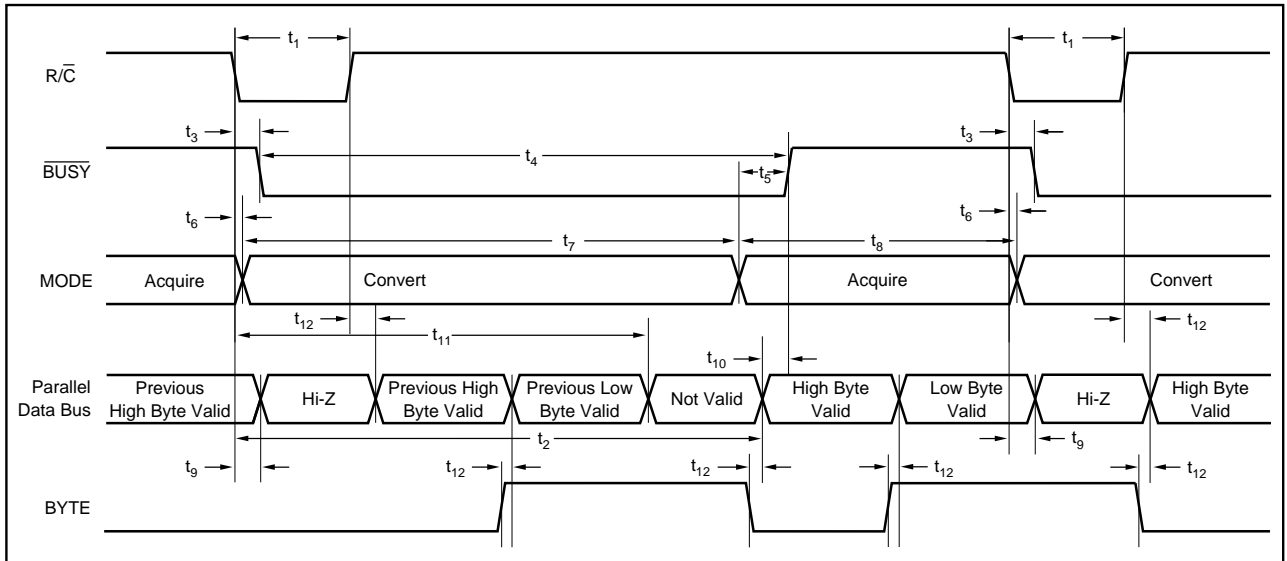

FIGURE 2. Conversion Timing with Parallel Output (CS and DATACLK tied LOW, EXT/INT tied HIGH).
The ADS7806 will begin tracking the input signal at the end of the conversion. Allowing 25µs between convert commands assures accurate acquisition of a new signal. Refer to Tables III and IV for a summary of  $\overline{CS}$ ,  $R/\overline{C}$ , and  $\overline{BUSY}$  states and Figures 2 through 6 for timing diagrams.
NOTE: (1) See Figures 2 and 3 for constraints on data valid from conversion "n-1".
After conversion 'n' is completed and the output registers have been updated, BUSY (pin 24) will go HIGH. Valid data from conversion 'n' will be available on D7-D0 (pins 9-13 and 15-17). BUSY going high can be used to latch the data. Refer to Table VI and Figures 2 and 3 for timing constraints.
After conversion 'n' has been initiated, valid data from conversion 'n-1' can be read and will be valid up to 12µs after the start of conversion 'n'. Do not attempt to read data beyond 12µs after the start of conversion 'n' until BUSY (pin 24) goes HIGH; this may result in reading invalid data. Refer to Table VI and Figures 2 and 3 for timing constraints.